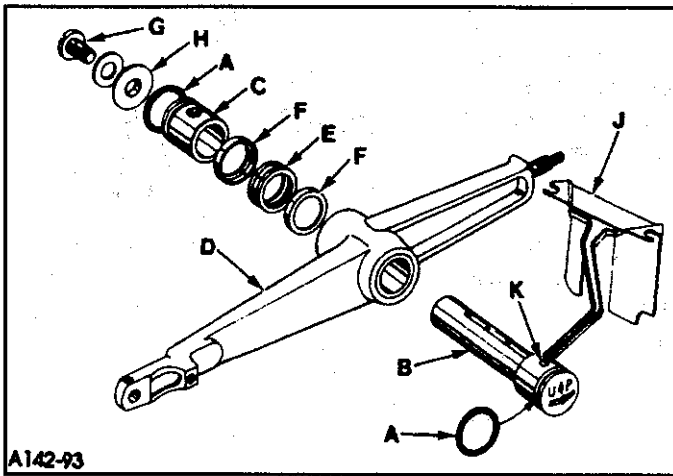
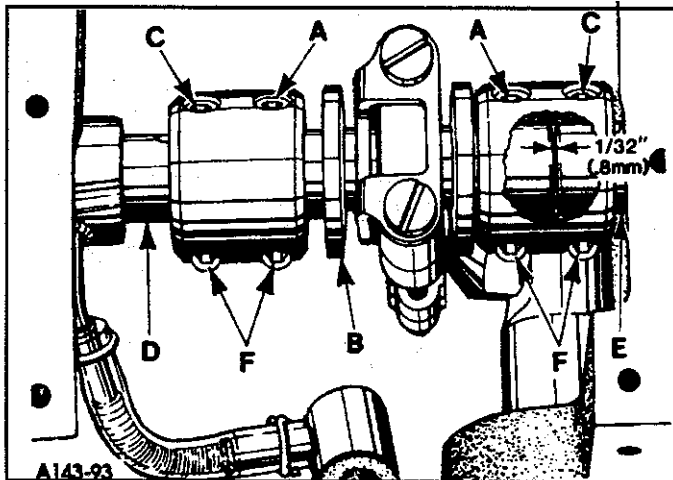
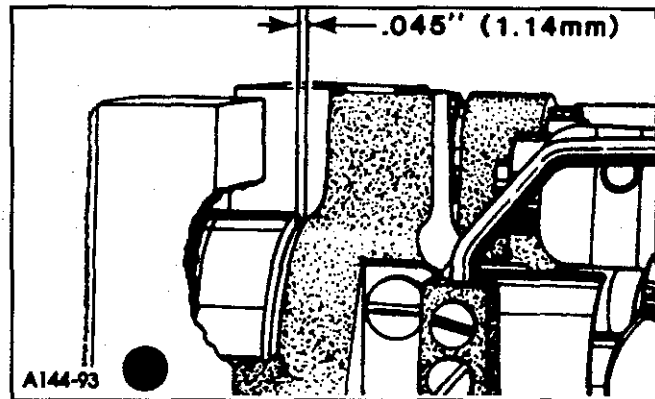

FIG. 26
FIG. 27
FIG. 28
Install "O" rings (A, Fig 26) onto needle lever stud (B) and thrust collar (C).
As viewed looking down from rear of machine, spot screws (A, Fig. 27) in the couplings must align with the spots in the looper drive crank (B) and set screws (C) must align with the flats on crankshaft (D) and main shaft (E). Main shaft must be positioned laterally with .045" (1.14mm) clearance between the right side of its head and the bed casting as shown in Fig. 28.
Looper drive crank (B, Fig. 27) must be positioned laterally with 1/32" (.8mm) clearance between it and main shaft (E) as shown in Fig. 26. Once these settings are made, it is very important that the couplings are tightened in the following sequence for best performance.